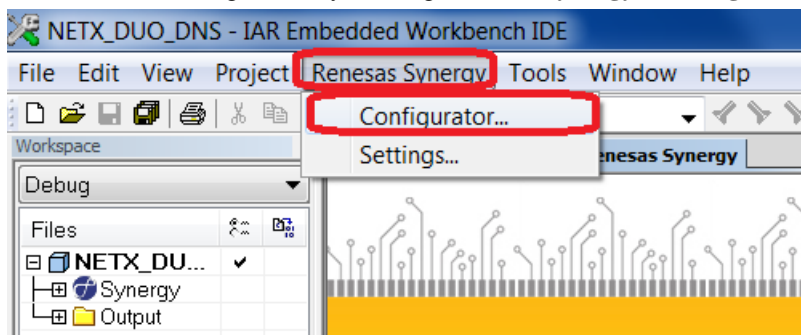

Figure 1.7 Synergy™ Standalone Configurator
- 3. Open the Synergy™ Standalone Configurator, by clicking **Renesas Synergy > Configurator**. See Figure 1.7.